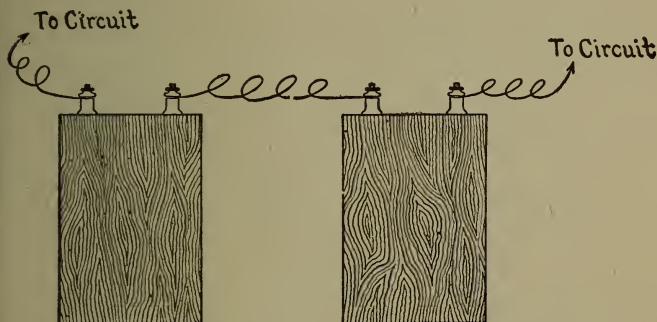

Fig. 16. Two Condensers in Series.
*Answer.* If as shown in Fig. 16 you bring a line wire to one binding post of the first condenser, and the other